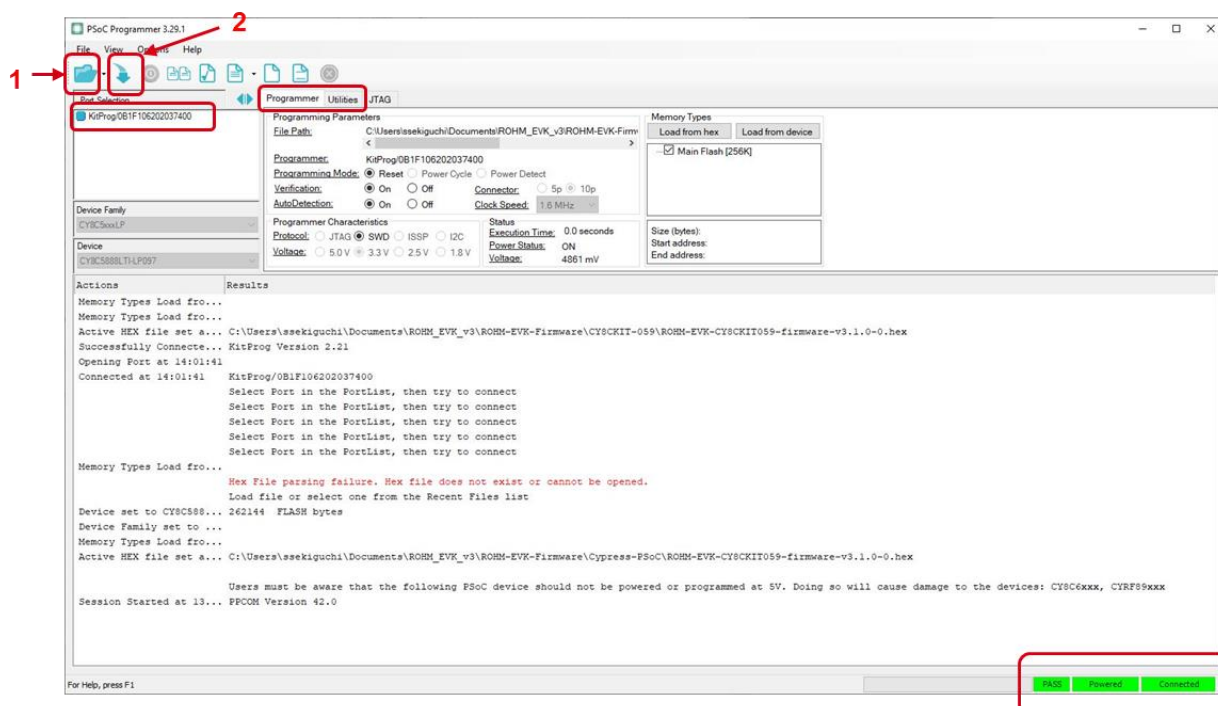

Figure 101. PSoC Programmer GUI
- Open the PSoC Programmer application on your computer. Once opened, verify that Powered and Connected status messages are displayed in the status bar – the bottom right side of the window (*Figure 101*). If not, please verify the CY8CKIT-059 Prototyping Kit is properly plugged into the USB port.
5. Next, select the firmware hex file mentioned in the step 2 by either pressing the Open Folder button (Figure 101, number 1) or through the menu (File>File Load) or by pressing the F4 key (Figure 101).
6. Next, flash the firmware on the CY8CKIT-059 Prototyping Kit by pressing the Down Arrow button (Figure 101, number 2) or through the menu (File>Program) or by pressing the F5 key (Figure 101).